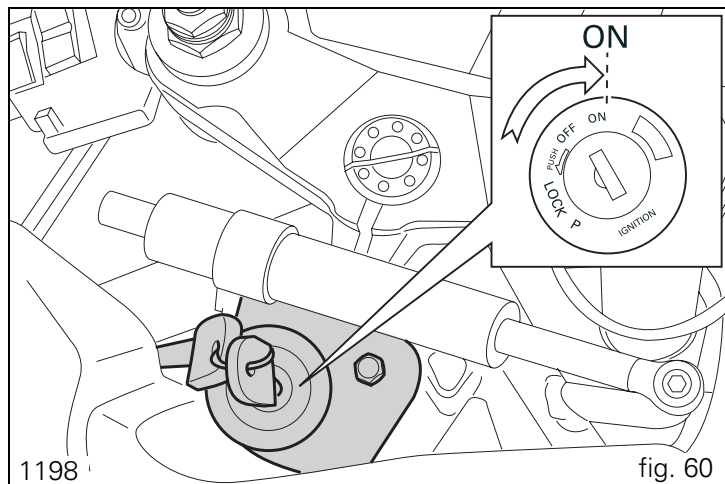
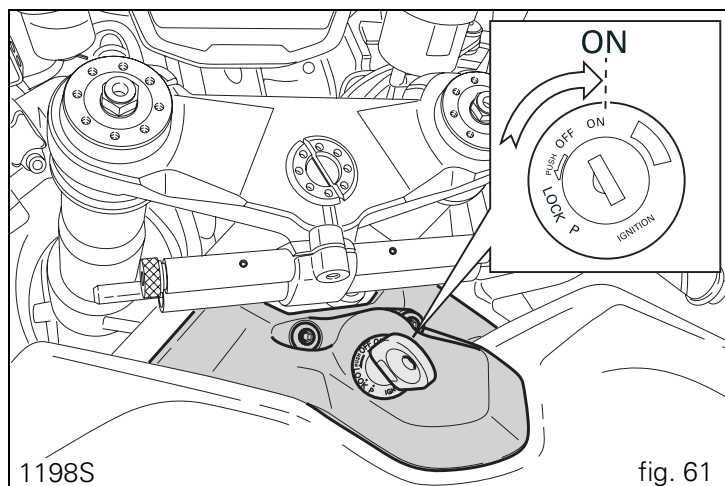

fig. 60
fig. 61
1) Turn the ignition key to **ON** (fig. 60 and fig. 61).